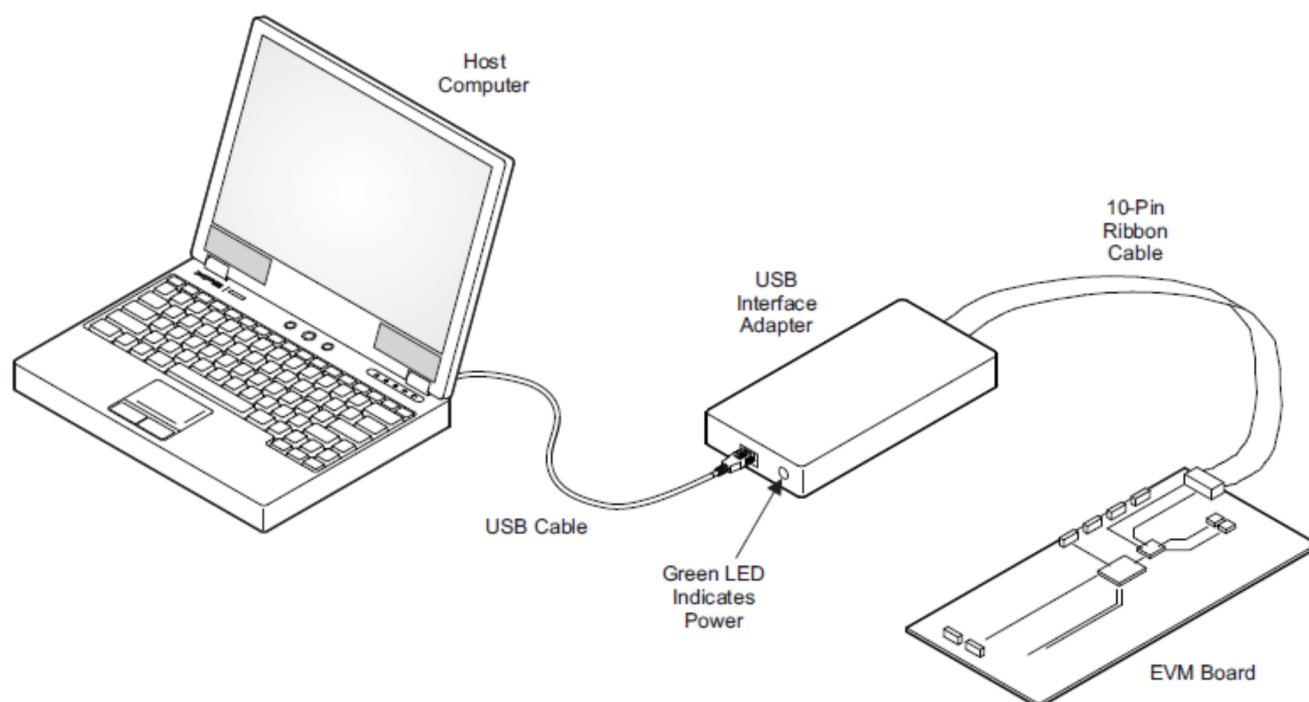

Figure 5. USB Interface Adapter Quick Connection Diagram
- Connect one end of the USB-TO-GPIO box to the PC using the USB cable and the other end to JP15 of the TPS65233 using the supplied 10-pin ribbon cable per Figure 5. The connectors on the ribbon cable are keyed to prevent incorrect installation.